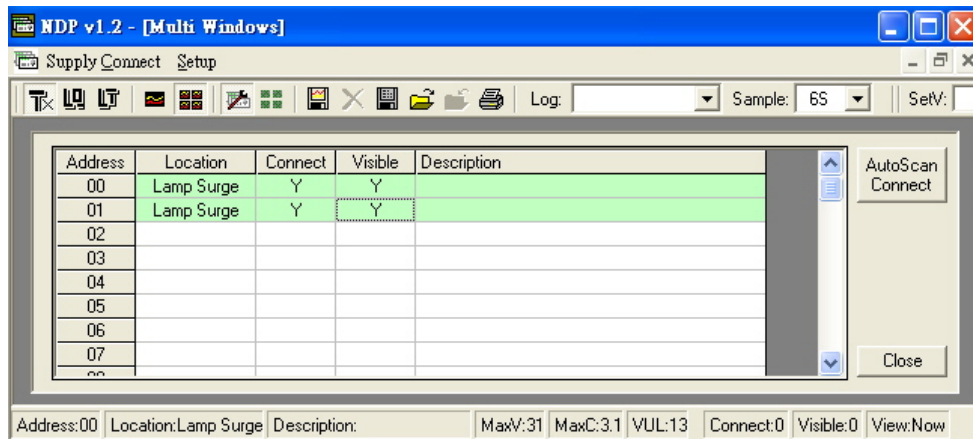

Figure . 6.5.2b
3. Click on the icon (circled as below), a *Multi Power Supply Connect Setup* (Figure 6.5.2b) will appear.